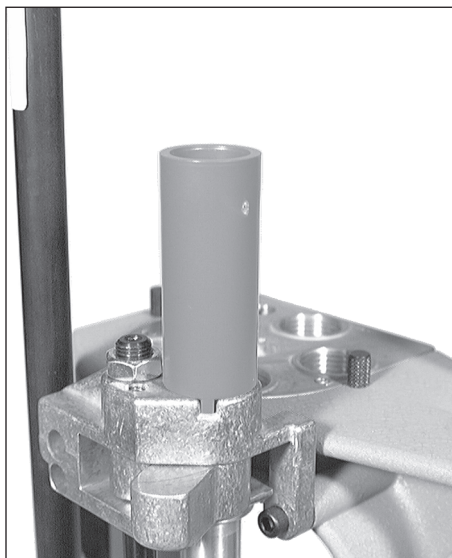

FIG 22
4. Place the casefeed adapter on the casefeed body FIG 22. Note how the key fits into the notch on the casefeed body.